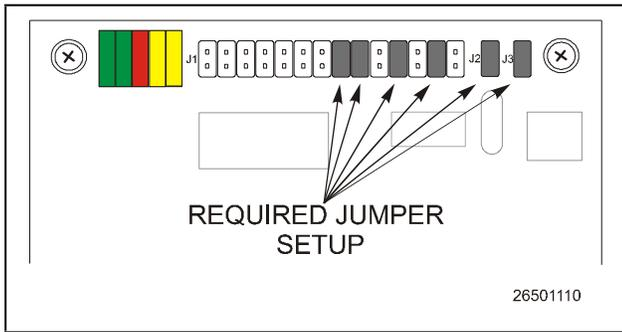

Figure 1-2 - NetCom Card Jumper Setup
2. Confirm that the jumpers on J1, J2 and J3 are in place according to **Figure 1-2**.